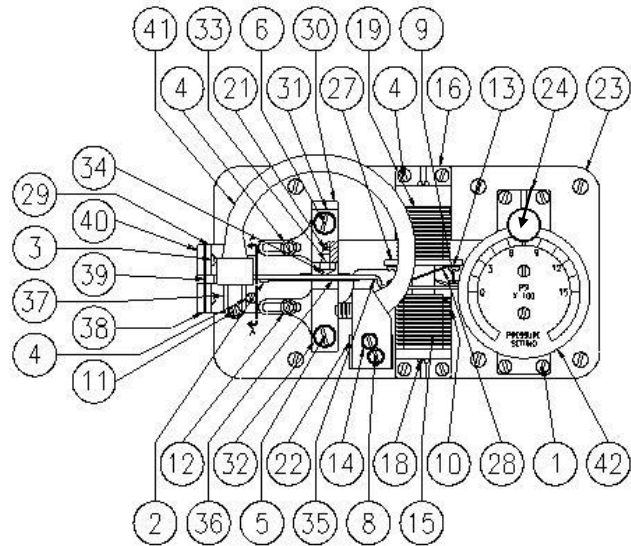

Figure 6 Controller Sub-Assembly for Bourdon Tube Controllers CVS Type 4150 and 4160
(Refer to figure 6)
1. Move the calibration adjuster (Key 30, Figure 6) to the right or the left.
4. Raise or lower the nozzle (Key 34, Figure 6) to get the desired setting of zero as per chart below. Nylon insert will hold the nozzle in place.
5. Raise or lower the nozzle (Key 34, Figure 6) to get the desired setting of zero as per chart below. Nylon insert will hold the nozzle in place.
Controller Sub Assembly (Refer to Figure 6)